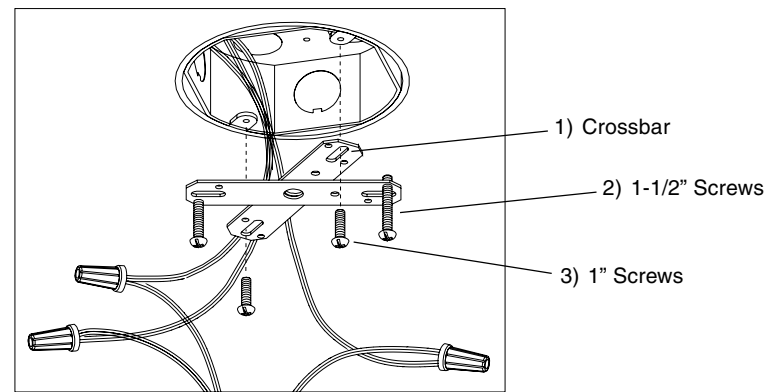

Figure 2
2. Install Crossbar (1) to Junction box: Rotate one Crossbar until all holes & slots in both are visible. Align slots of top Crossbar over mounting holes in Junction box and secure Crossbar to Junction box by inserting 1" Screws (3) through each slot. **See Fig. 2.**
6. Fixture mounting: Tuck wires into junction box and align keyholes on back of fixture Housing Assembly (5) with fixture mounting screws in Crossbar, lift fixture up, rotate clockwise and tighten fixture mounting screws to secure Housing Assembly against ceiling. **Note: Fixture orientation can be adjusted by rotating Crossbar in desired location before securing fixture to ceiling.**
7. Lamp installation: With power prongs on Lamp (8) facing downward, plug ballast power connector into lamp power receptacle. Position the Lamp over two Lamp Clips (6) and gently push lamp over the third clip while pulling the clip slightly back.
9. Attach Threaded Rod (7) to fixture housing and Align hole in glass diffuser (9) with threaded rod (7) attached to housing (5)- place onto housing. (Approx. 5/8" of the rod should be exposed below glass-adjust as needed). **See Fig. 2.**
10. Secure w/ Decorative cup (10) and Finial (11).
2. Instale la barra transversal (1) a la caja de ensambladura: Gire una Barra Transversal hasta todos los agujeros y las ranuras de ambas estén visibles. Alinee las ranuras de la Barra Transversal superior sobre los agujeros de montaje en Caja de Ensambladura y asegure la Barra Transversal a la caja de ensambladura insertando un tornillo de 1" (3) a través de cada ranura. **Vea Fig. 2.**
9. Conecte la Varilla Roscada (7) a la carcasa del luminario y alinee el agujero en el difusor de cristal (9) con la varilla roscada (7) conectada a la carcasa (5) - coloque en la carcasa. (Aprox. 5/8" de la varilla deberá estar expuesta por debajo del cristal – ajuste como necesario). **Vea Fig. 2.**
10. Asegure con copa Decorativa (10) y Finial (11).